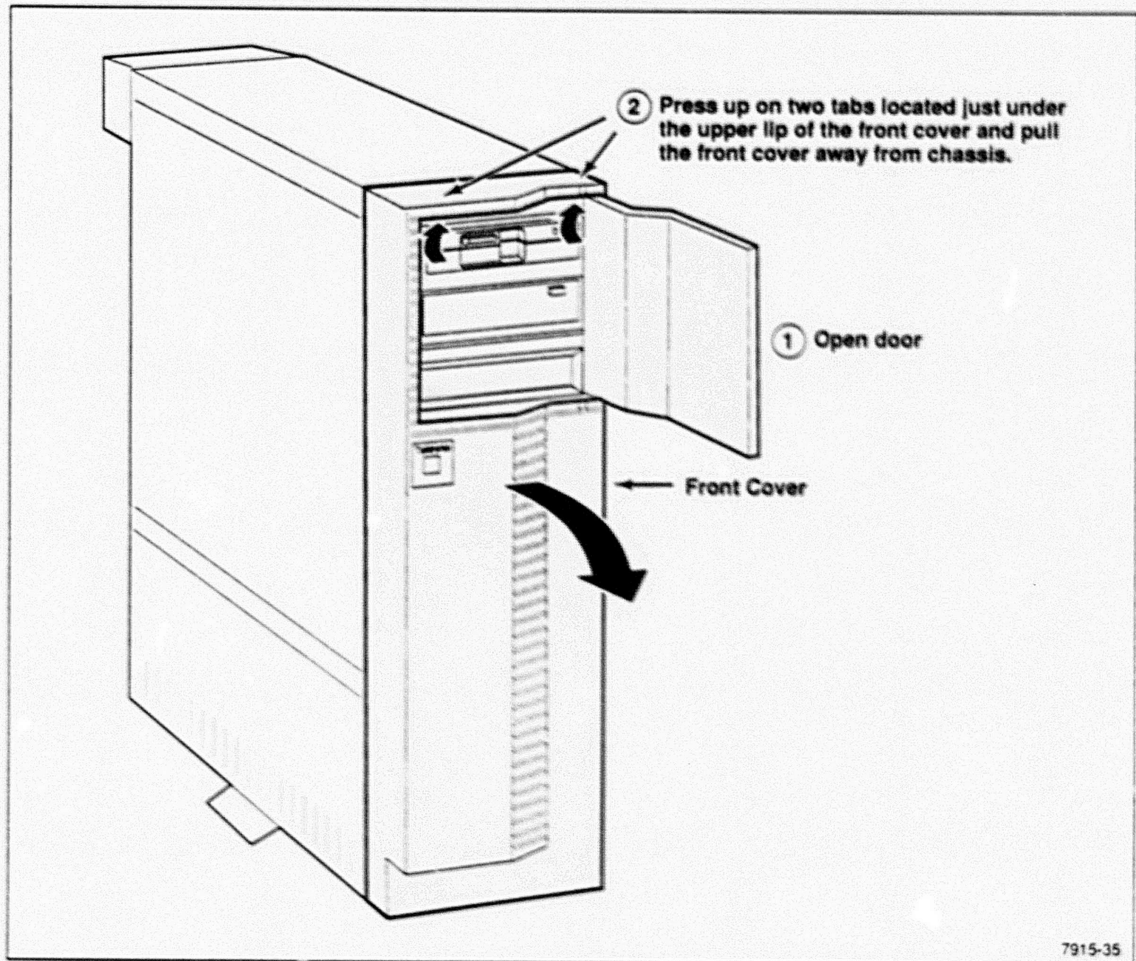

Figure 1. Removing the Compute Module Front Cover.
2. Remove the front cover as shown in Figure 1.